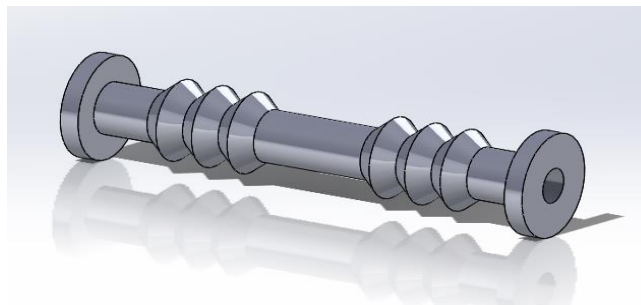
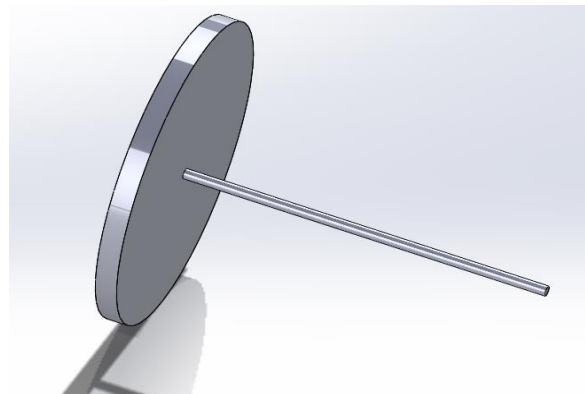

Figure 4: Bellows Valve (Part #003)
Figure 5: Diaphragm (Part #004)
There are two pieces that come apart from this case. The bellows is the main piece that needs replacement but the diaphragm (004) will need to be replaced at the same time. These two pieces can be seen below in Figure 4 and Figure 5.